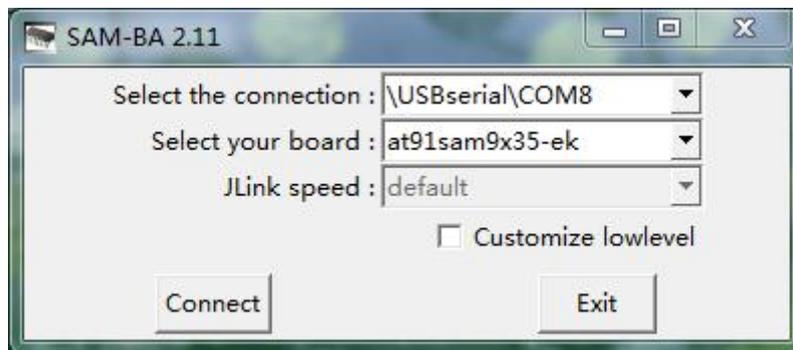

Figure 4-4
(1) Complete chapter 4.3.1 and 4.3.2, turn switch SW1, SW2 off, restart board, and then turn SW1 on, open SAM-BA to set corresponding parameters. Connection is \the USBserial\COMXX (XX is each computer's COM port, choose it by actual situation, here selected COM8) board select at91sam9x35 -ek. And then click "Connect", specific settings and connected results are shown in figure 4-4, 4-5: